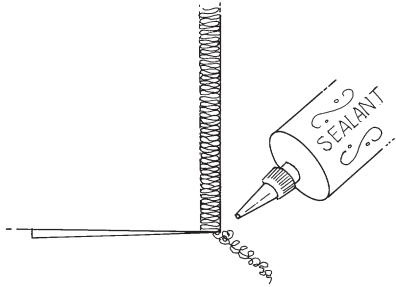

Fig. 20-2
1. Put a drop onto the threads at the end of the serged seam. (Fig. 20-2)